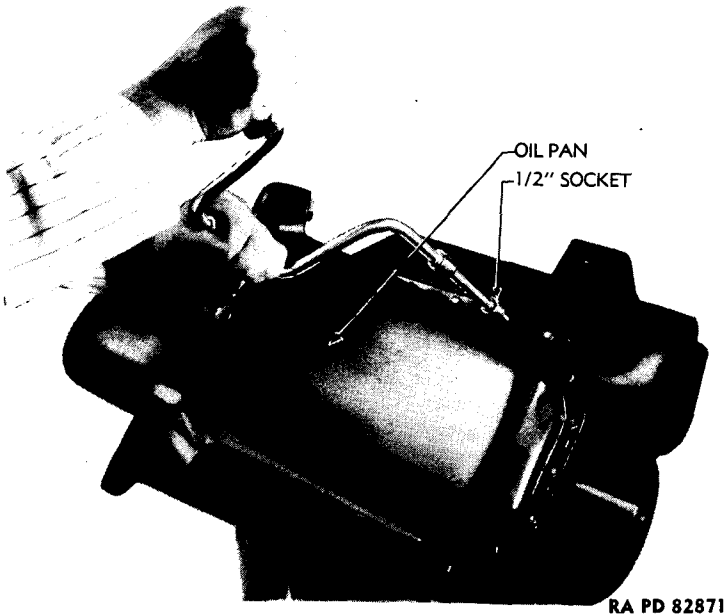

Figure 37 - Removing Oil Pan
b. **Remove Oil Pan and Gasket.** Drain oil, and remove screws holding oil pan to crankcase and rear main bearing cap (fig. 37). Remove oil pan and gasket.